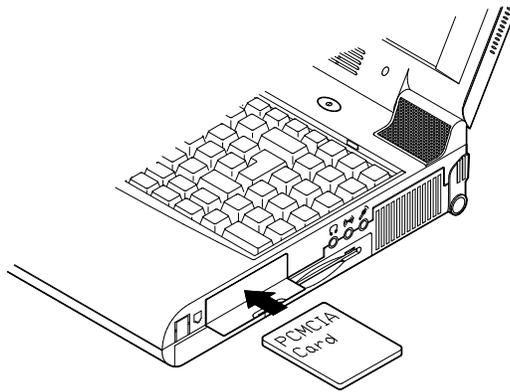

Figure 2-17
2. Align the PC card with the slot and push it in firmly until it locks into place (Figure 2-17).